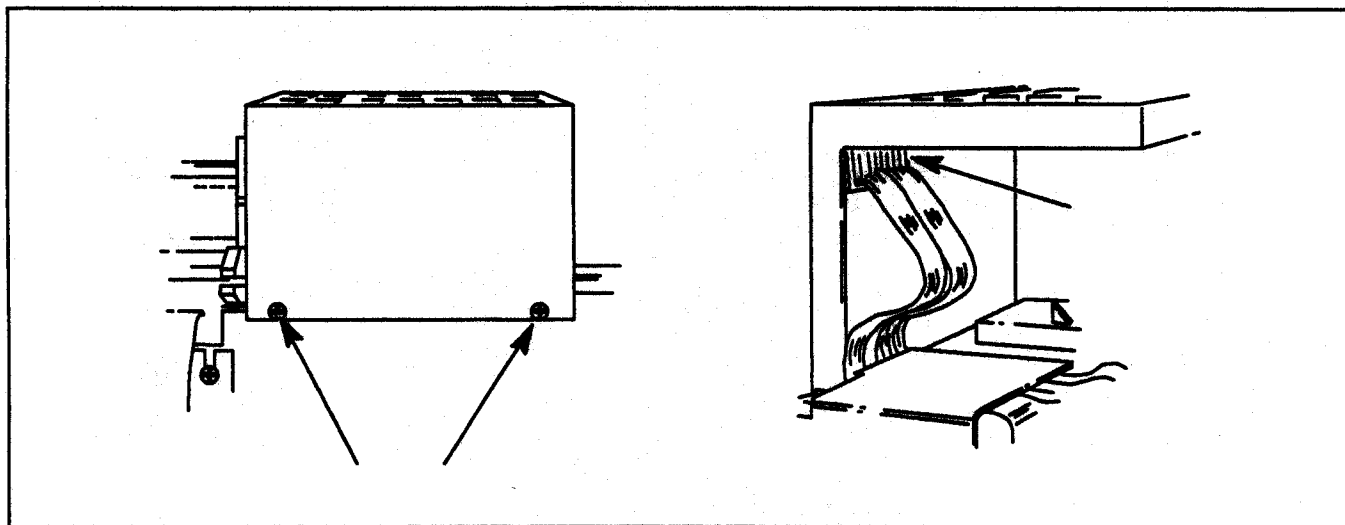

Figure 6-8. Front Panel Removal
- c. Remove the two machine screws from the front bottom edge of the front panel assembly. See Figure 6-8.
- d. Carefully disconnect the front panel cable assembly from under the front panel assembly. Figure 6-8.